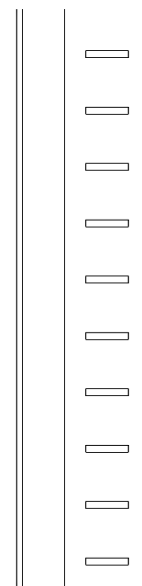

Fig. 4.3
- B. Install Perimeter Track. Securely fasten track to walls using staples and/or screws. Staples should be every $\frac{1}{4}$ " – $\frac{1}{2}$ " and should be shot into drywall at different angles to help hold the track securely in place. Place a screw into stud locations. (fig. 4.3)